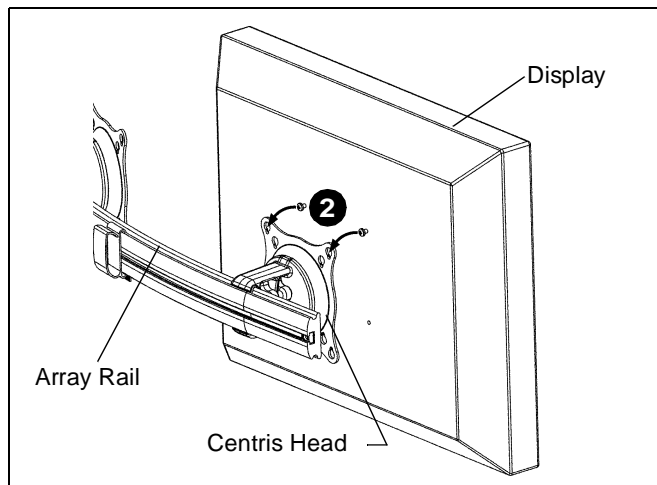
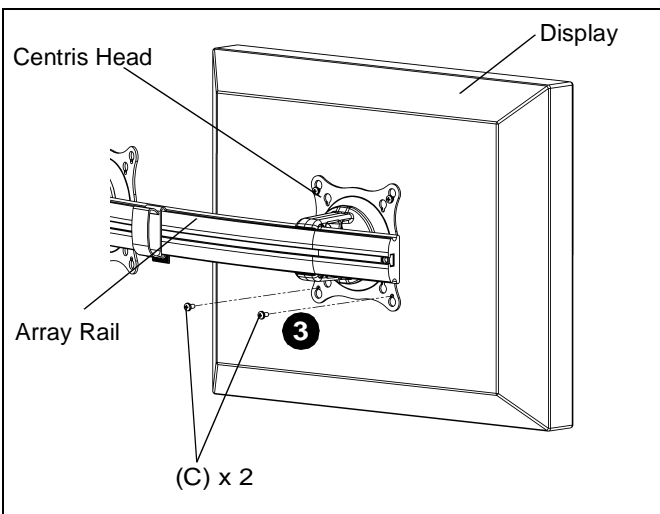

Figure 4
Figure 5
2. Hang display on Centris head. (See Figure 4)
3. Install bottom two M4 x 12mm Phillips pan head screws (C) through Centris head mounting holes and into lower mounting holes in display back.
4. Tighten four M4 x 12mm Phillips pan head screws (C). (See Figure 5)